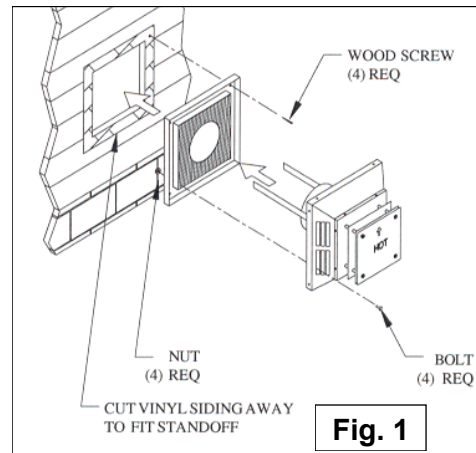

Fig. 1
6. Position the Horizontal Vent Termination in the center of the square hole (arrow on the vent cap should be facing UP), and run a bead of non-hardening sealant around the outside edges of the termination, so as to make a seal between the termination and the wall. Finish attaching the termination cap to the wall with the four wood screws provided with the termination cap. **NOTE:** The four wood screws provided should be replaced with the appropriate fasteners for stucco, brick, concrete or other types of siding. For buildings with VINYL SIDING, a Vinyl Siding Standoff should be installed between the vent cap and the exterior wall. Attach the Vinyl Siding Standoff to the Horizontal Termination Cap by bolting the flat portion of the Vinyl Siding Standoff (Fig.1) so that an air space will exist between the wall and the Vent Termination.